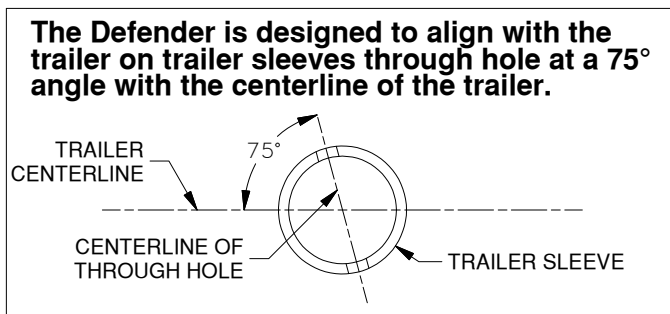

Figure A1: Trailer sleeve hole orientation.
1. **Check compatibility.** Measure your towing equipment to ensure that it is compatible. The ball must be an SAE 2-5/16" ball having a 2.283 to 2.313 inch diameter. The trailer tongue must be equipped with a conventional 4" inside diameter round sleeve. At a minimum, the sleeve must have at least one set bolt with jam nut and a through pin, or two set bolts with jam nuts. It is recommended, if possible, that a through pin be used to ensure that the coupler tube cannot rotate. Drill a 7/8" through hole in the coupler sleeve if necessary. Coupler must be mounted so that it is aligned with the centerline of trailer, see Figure A1.